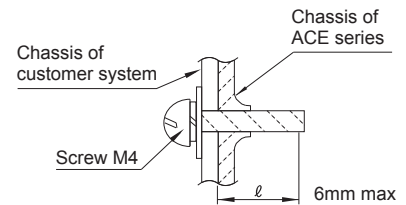

Fig. 4.5 Mounting screw
■Maximum length of mounting screws is 6mm (Refer to Fig. 4.5).